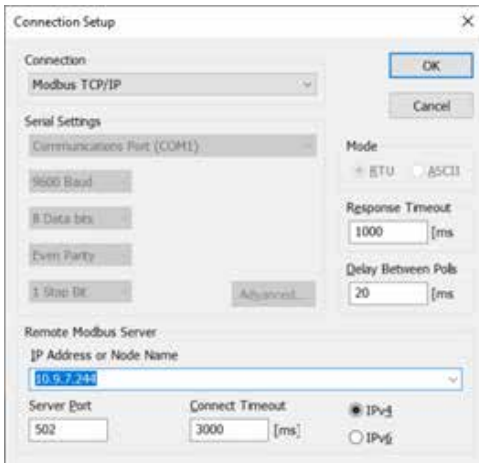

Figure 44.3. Modbus Poll Connection Setup.
- Click on the Connection menu to display the Connection Setup window, as shown in Figure 44.3.